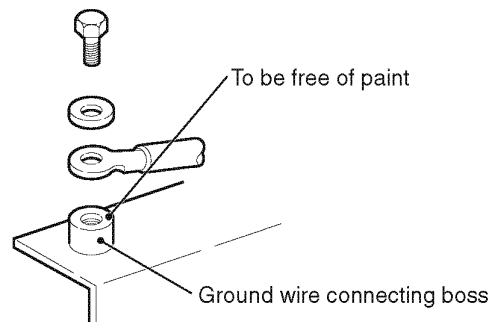

Figure 13-15
- Prepare the areas where the grounding wire will be attached (such as removing paint) (**Figure 13-15**).